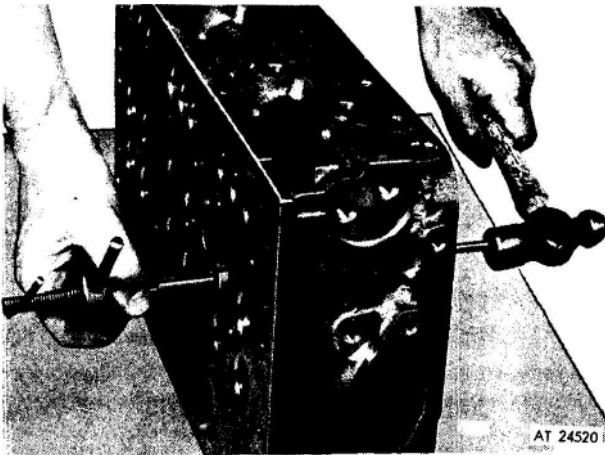

Figure 7. Removing exhaust valve seat insert.
1. Place the cylinder head on its side on the bench as shown in figure 7.